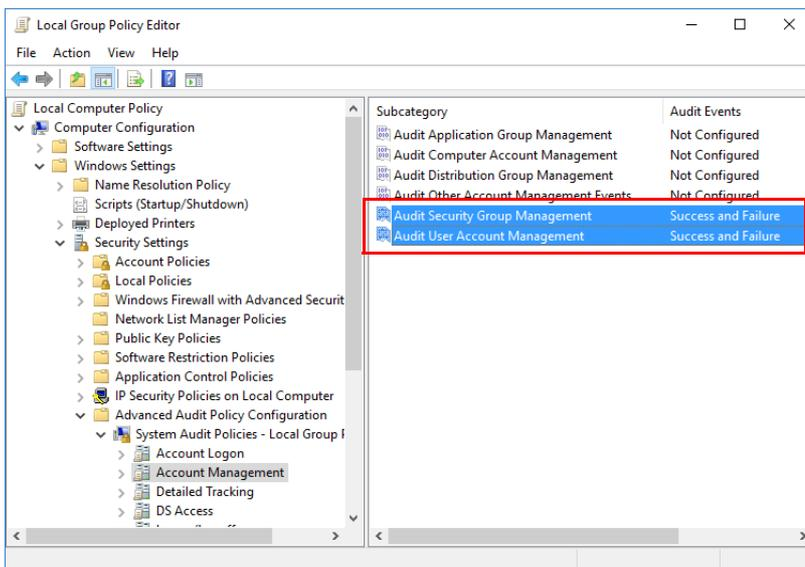

Figure 2-58. Account Management setting
In order to log account activities, for example, “User account management logs” (see Figure 2-58) the Administrator must adjust the Windows OS to enable the logging for Windows and Qtegra ISDS Software.
5. Set these properties for Account Management, see Figure 2-58.